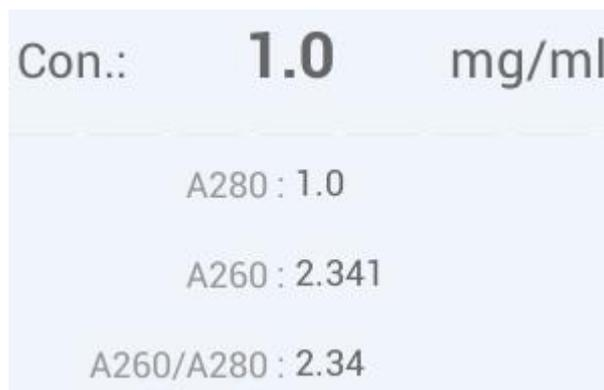

Fig 4.11 Protein measurement data
3) The detection result data can be displayed as Fig 4.11.